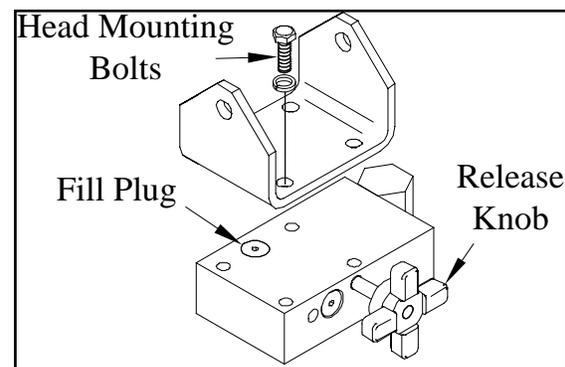

Fig. 6: Replenish oil
**ⓘ** With all four casters of the jack resting on the floor, lower the hydraulic stage fully and remove the head assembly by extracting the four head mounting bolts. See Fig. 6. Carefully clean the top of the jack to remove all dirt, especially in the vicinity of the fill plug. Remove the release knob by turning counterclockwise. Remove the fill plug and using a squirt-oil can, slowly add Tellus T22 oil (or equivalent) until reservoir overflows.